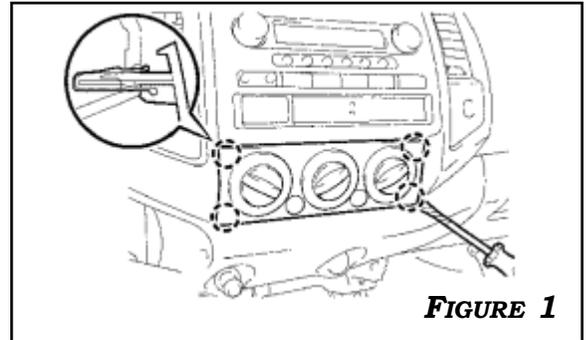

FIGURE 1
1. USING A SCREWDRIVER, DISENGAGE THE 4 CLIPS AND REMOVE THE AIR CONDITIONER CONTROL ASSEMBLY. **TAPE UP THE SCREWDRIVER TIP BEFORE USE.** DISCONNECT THE 2 CONNECTORS. **FIGURE 1**